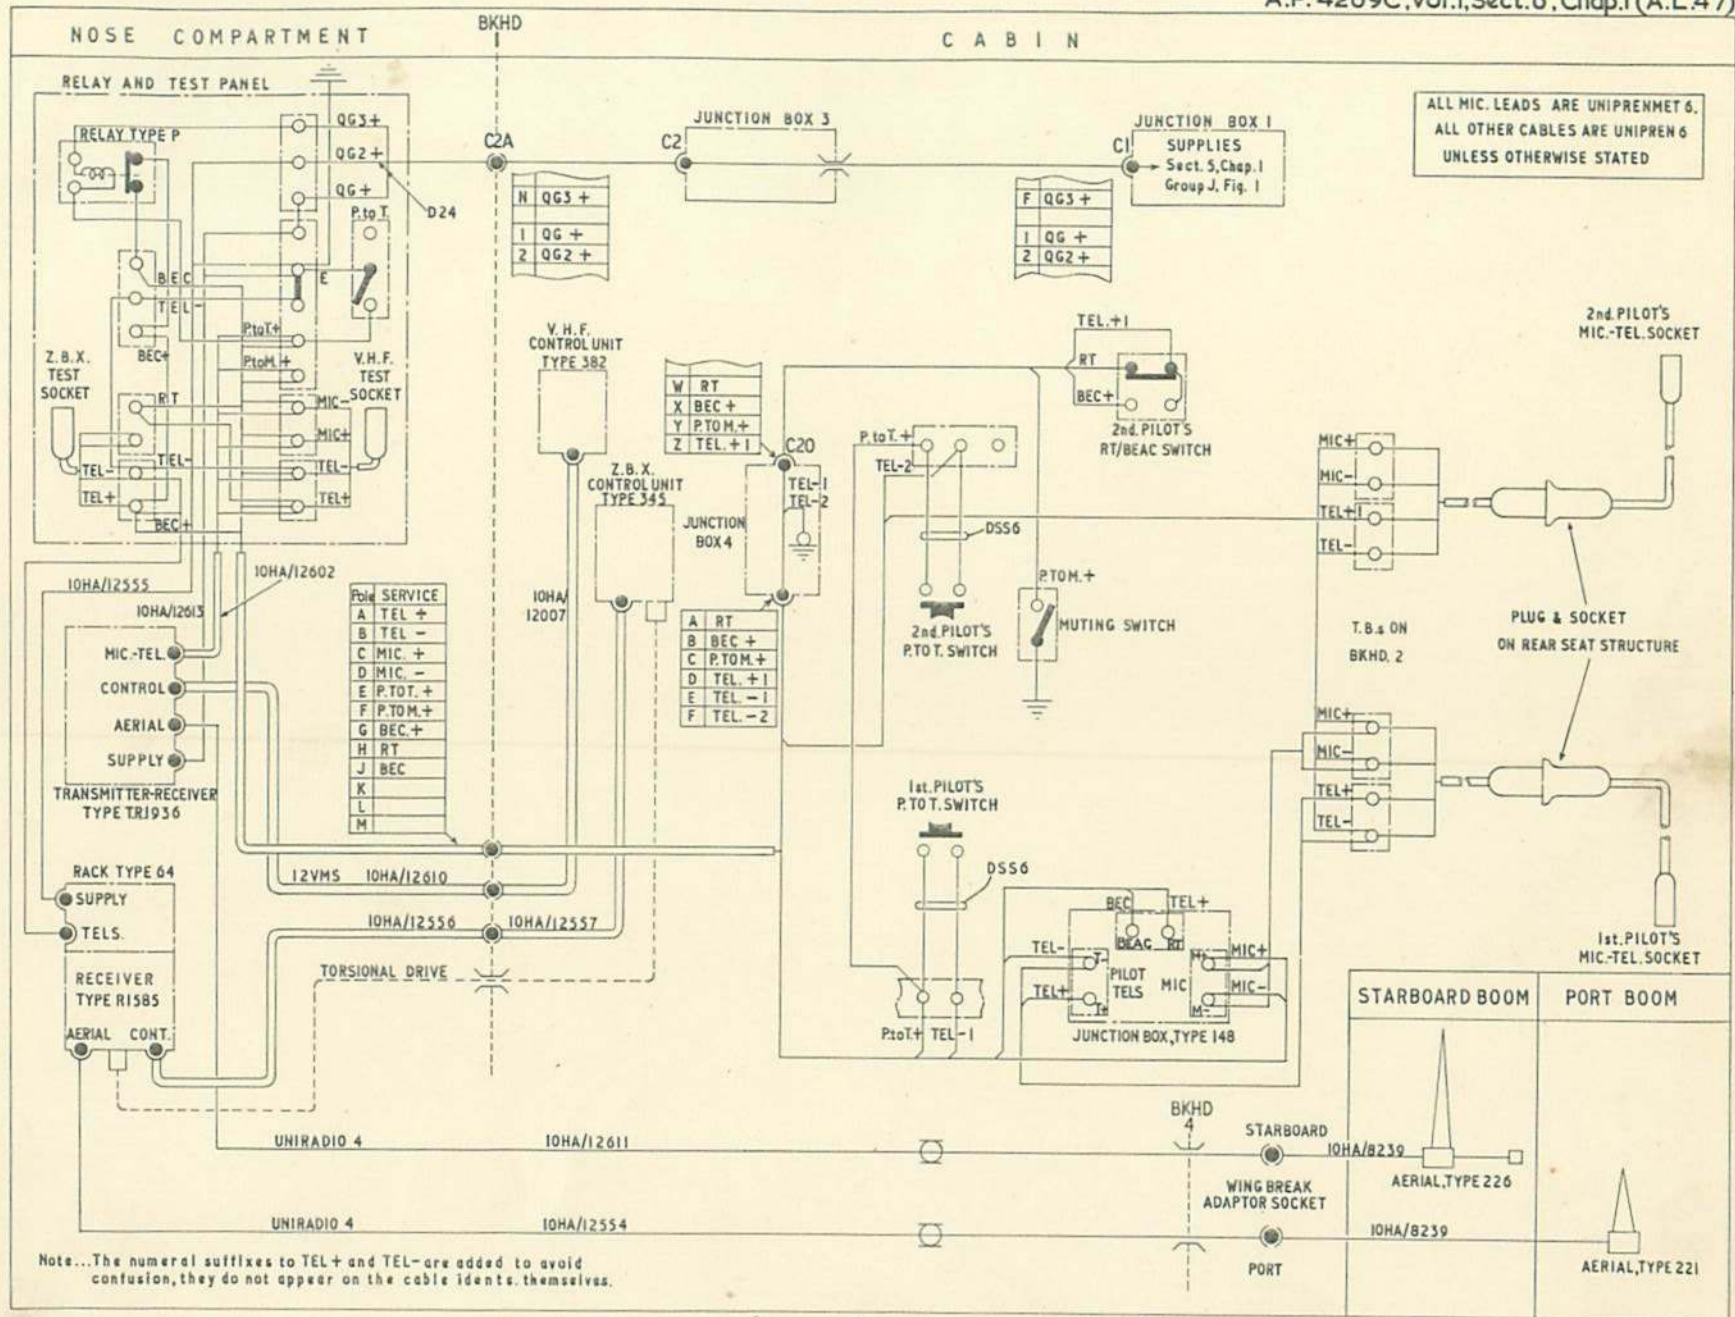

Fig.3 A.R.I.5489 (T.R.1936) and A.R.I.5307 (Z.B.X.) wiring
Figs. 1 and 2 show the location of the equipment in the aircraft and fig. 3 is a wiring diagram showing the interconnection of the units, terminal blocks and switches.
4. The d.c. supplies to the V.H.F. and Z.B.X. installations are fed from fuses in junction box 1 on the forward face of bulkhead 2, as shown in the wiring diagram, fig. 3 and in Sect. 5, Chap. 1, Group J, fig. 1.